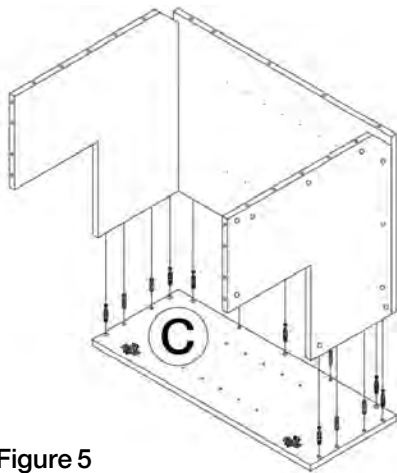

Figure 5
5. Install Top, Bottom, & Back Panels (D,F) onto the right side panel (C). (Figure 5)